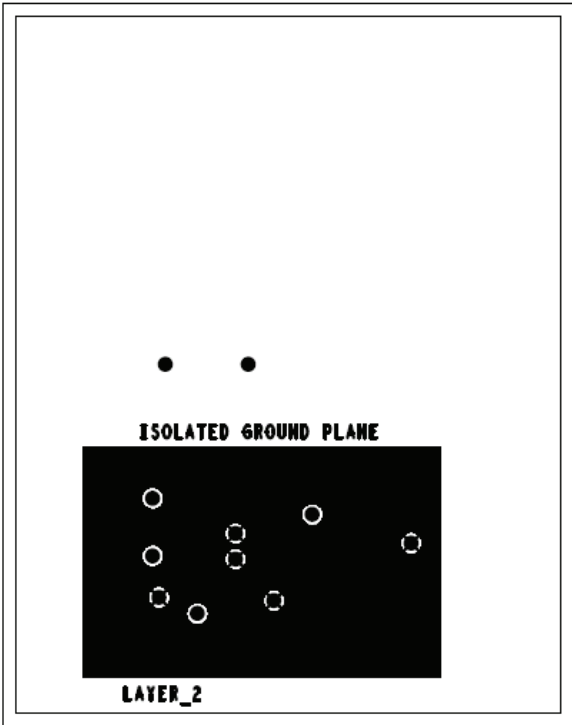

Figure 9 Layer 2
5. Use an isolated dedicated ground plane connected only to components associated with the IR3721 that connect to GND as shown in figure 9. Connect this dedicated ground plane at one location only to the ground of the monitored voltage. The thermally relieved via in figure eight illustrates this connection.